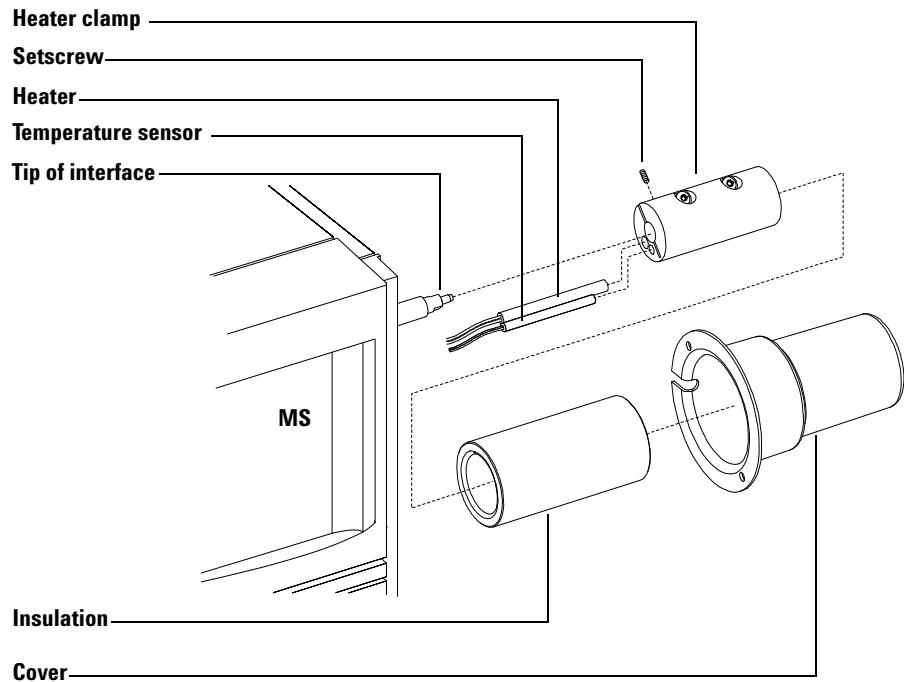

Figure 16 Replacing the GC/MS interface heater and sensor
- 5 Slide the insulation off the GC/MS interface (Figure 16).
- 1 Slide the new heater and temperature sensor into the heater sleeve (Figure 16).